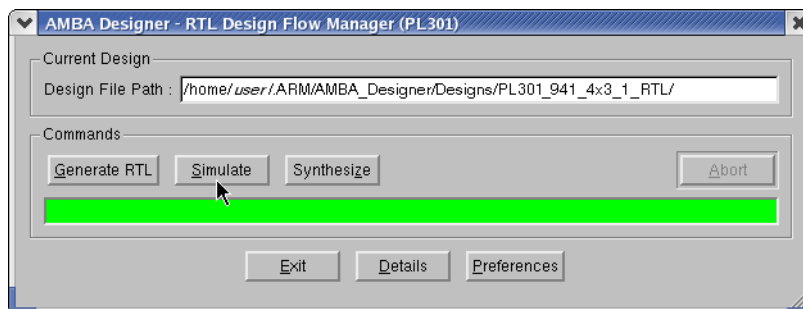

Figure 8-10 Simulate RTL
- Click on **Simulate** in the RTL Design Flow Manager dialog box, as Figure 8-10 shows.